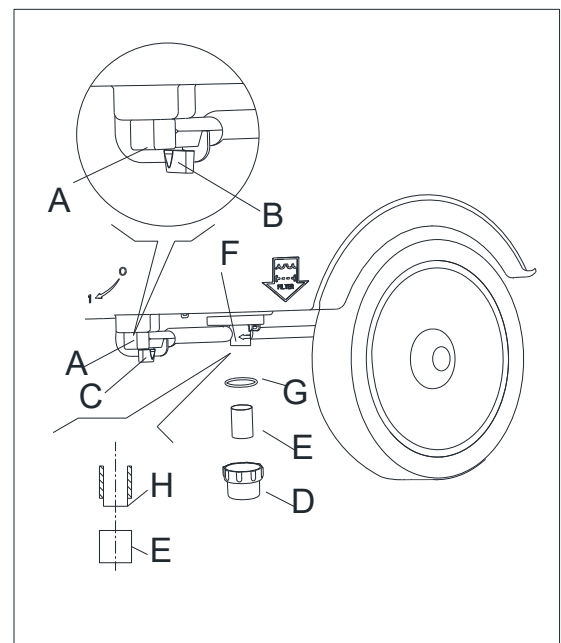

Figure 20
2. Ensure that the machine is off and the ignition key (24) has been removed.
3. Turn the valve (A, Figure 20) to off "0".
4. Remove the filter cover (D, Figure 20), clean the filter (E, Figure 20), then assemble it to the filter body (F, Figure 20).